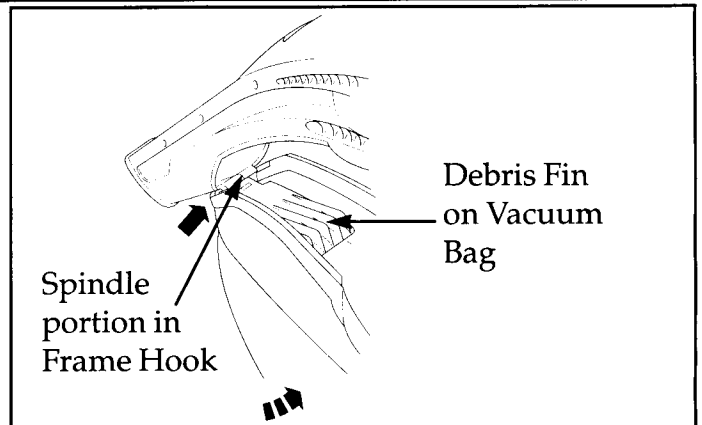

Figure 2
1. Ensure the debris fin on vacuum bag is horizontal. Figure 2.
3. Catch the spindle portion of the bag frame in the frame hook on the underside of housing. Figure 2.
3. Flip the debris fin on the vacuum bag back into the horizontal position. Figure 2.
5. Catch the spindle portion of the bag frame in the frame hook on the underside of housing. Figure 2.